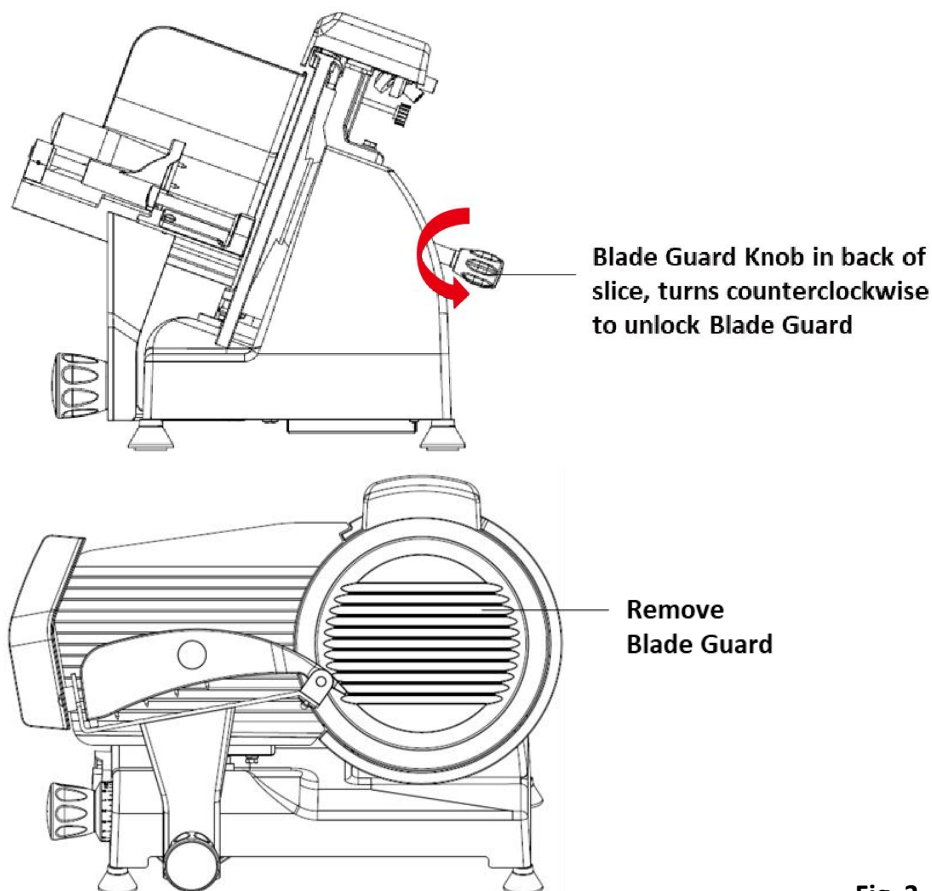

Fig. 3
5. With one hand flat on Blade Guard (Part ⑨), turn the black Blade Guard Knob (⑭, located on the back of the slicer behind blade) counterclockwise until the Blade Guard (⑨) is released. (Refer to Fig. 3)
6. Remove the three Phillips head screws that hold Blade (Part ⑧). (Refer to Fig. 3) The Blade is now released from shaft and can be removed by gently pulling outward. **USE EXTREME CAUTION: We highly recommend wearing cut-resistant gloves when removing, cleaning and re-installing the blade.**